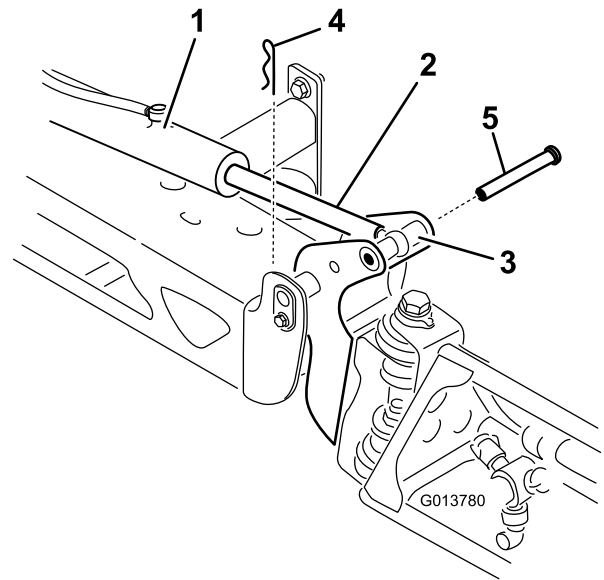

Figure 106
2. Remove the hairpin from the clevis pin (Figure 106).
3. Lift up on the section, remove the clevis pin, and slowly lower the section to the ground (Figure 106).
7. While supporting the spray section, insert the clevis pin through both boom pivot and actuator rod (Figure 106).